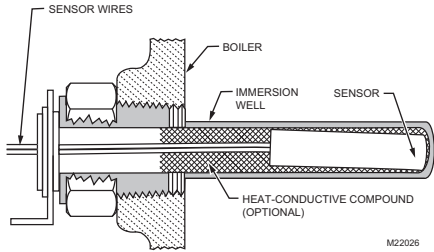

Fig. 5. Replacement sensor installation.
3. Insert the sensor into the well as shown in Fig. 5. (If desired, distribute the heat-conductive compound in the tube prior to sensor insertion, as described in New Installation.)
4. Make sure sensor is fully seated to bottom of well (Fig. 5). Use a small pencil to measure depth of sensor in well, if necessary.
2. Carefully align replacement sensor with hole in circuit board and guide through Aquastat case and into well. Refer to Fig. 5.
3. Make sure sensor is fully seated to bottom of well (see Fig. 5). Use a small pencil to measure depth of sensor in well, if necessary.